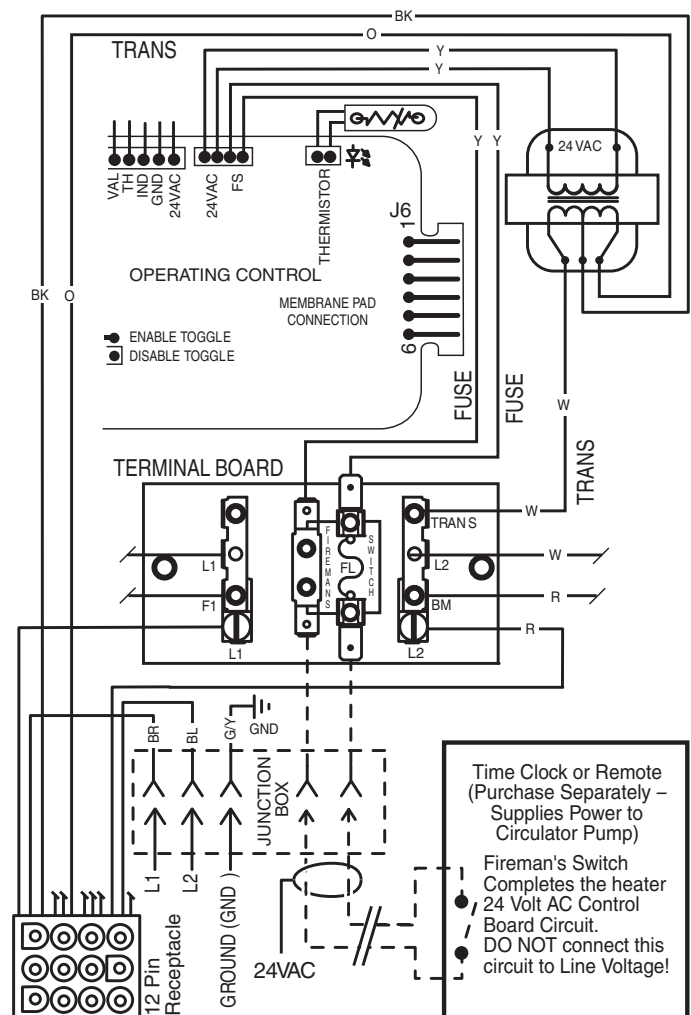

Figure 24.
- Connect wires between the Fireman's Switch terminals on the heater and the relay. Connect wires from the controller or timer to the Fireman's Switch. Controller, timer or relay should be sized to handle 24VAC at 0.5 Amp (because it will be completing the 24VAC control board circuit on the heater as shown in Figure 24). DO NOT apply line voltage to the Fireman's Switch terminals. Use 18 gauge wire with a minimum 1.2 mm (3/64 in.) thick insulation rated for a temperature rise of at least 105° C.